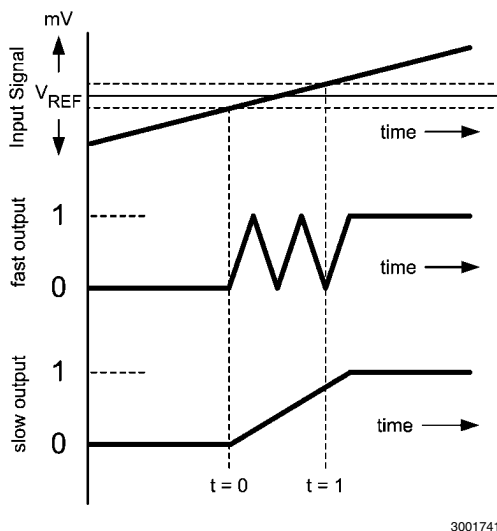

FIGURE 14. Oscillations on Output Signal
*Figure 14* shows what happens when the input signal rises from just under the threshold  $V_{REF}$  to a level just above it. From the moment the input reaches the lowest dotted line around  $V_{REF}$  at  $t = 0$ , the output toggles on noise etc. Toggling ends when the input signal leaves the undefined area at  $t = 1$ . In this example the output was fast enough to toggle three times. Due to this behavior digital circuitry connected to the output will count a wrong number of pulses. One way to prevent this is to choose a very slow comparator with an output that is not able to switch more than once between '0' and '1' during the time the input state is undefined.